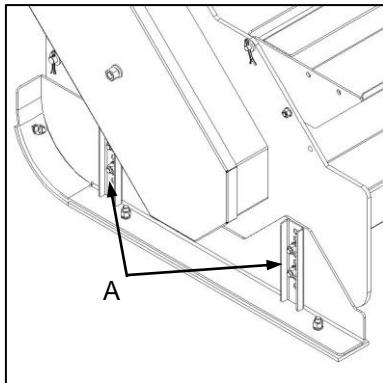

Fig. 5
- ✔ To set the working height of the implement, remove the side panel retaining bolts (Fig. 5-A) and adjust the position of the side panels as required. Ensure that the implement is level by selecting corresponding hole positions at all adjustment points.
- ✔ Om die werkhoopte van die implement te stel, verwyder die sypaneelklemoute (Fig. 5-A) en verstel die posisie van die sypaneel soos nodig. Verseker dat die implement waterpas is deur ooreenstemmende gatposisies by alle verstellingspunte te selekteer.